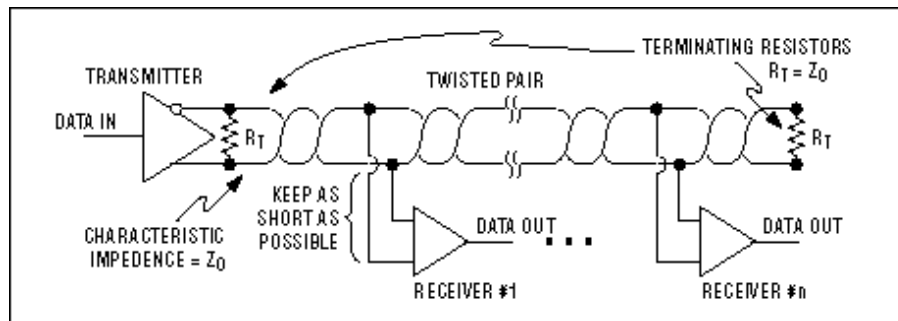

Figure 7. A one-transmitter, multiple-receivers RS-485 network.
**Figure 7** shows a one-transmitter multiple-receivers network. Here, it is important to keep the distances from the twisted pair to the receivers as short as possible.